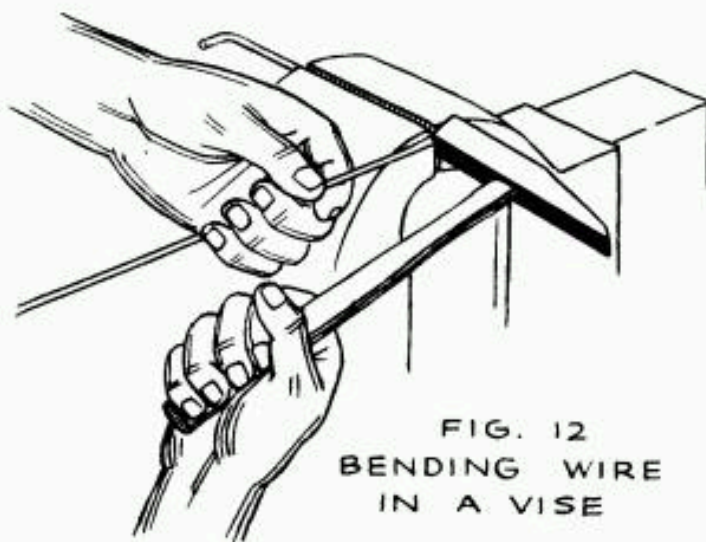

FIG. 12
6. Place the bent part in the vise and bend the wire to a 90° angle as in Fig. 12.